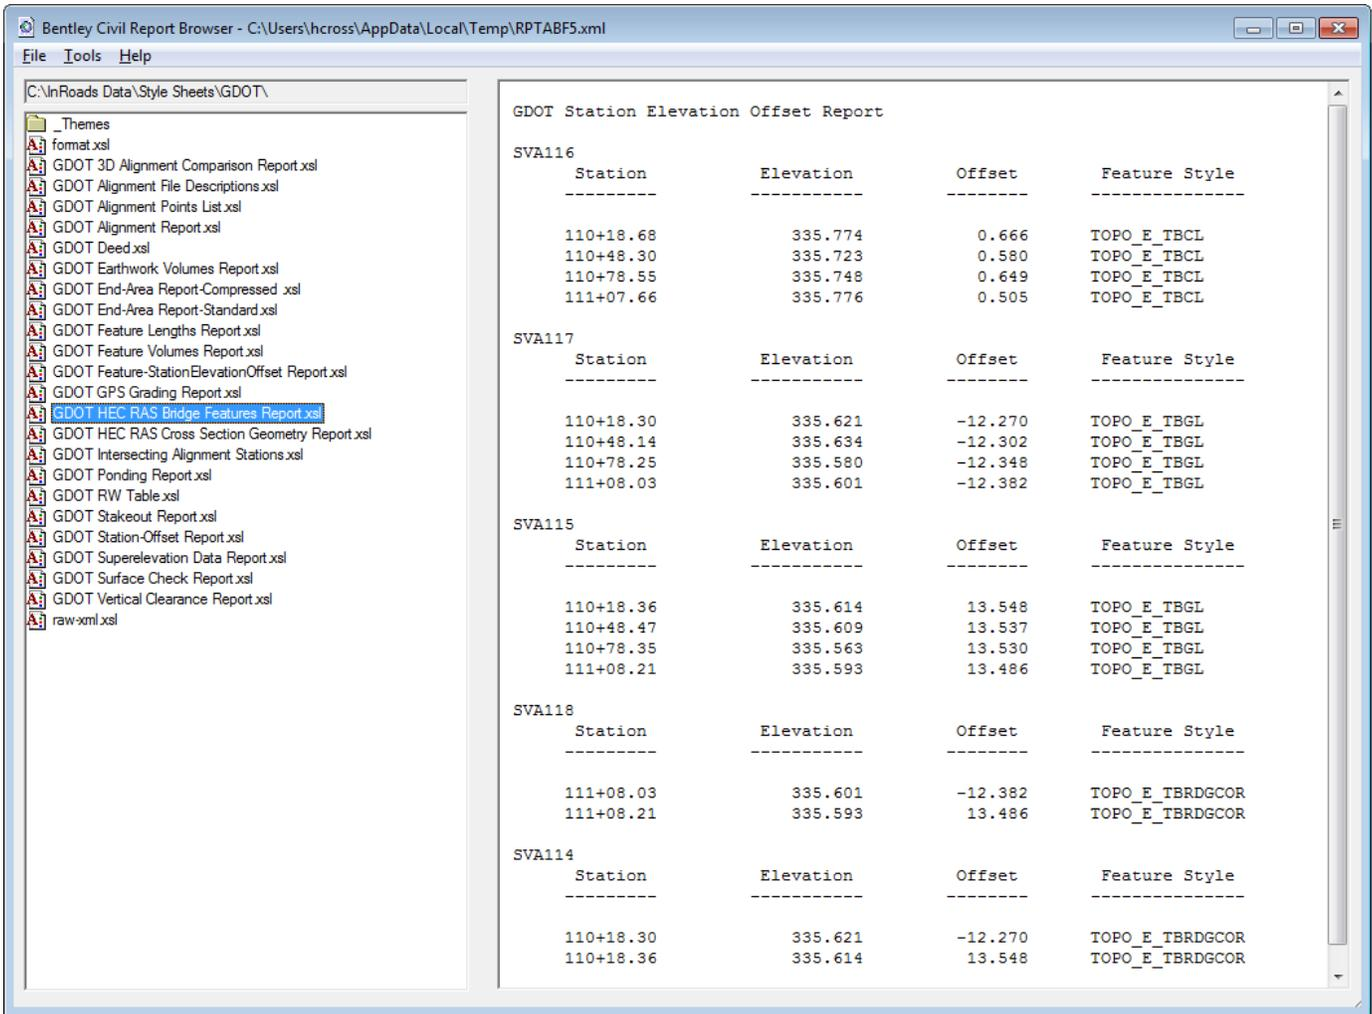

Figure L5-12 Bentley Civil Report Browser
- Verify your Report provides the information shown in *Figure L5-12*.